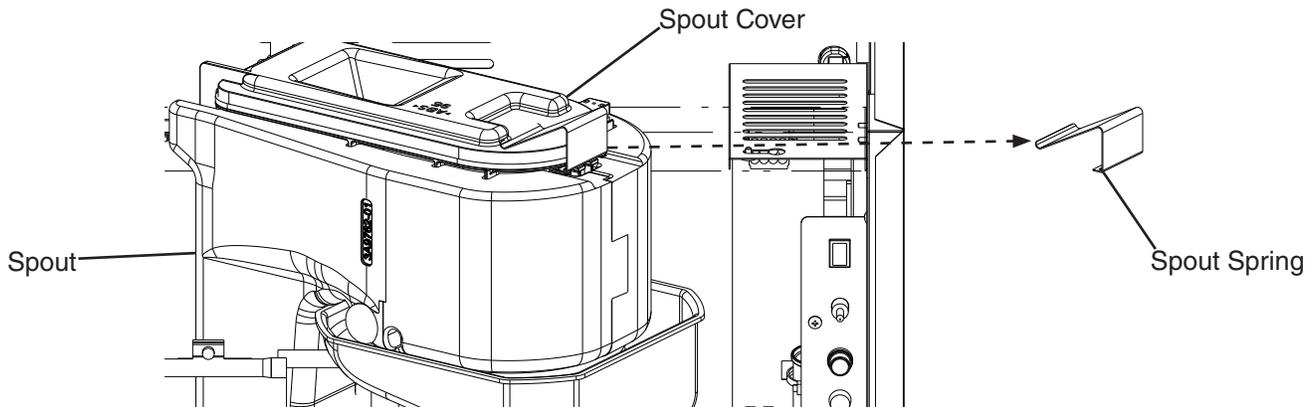

Fig. 12
- 3) Remove the spout spring from the spout. See Fig. 12.